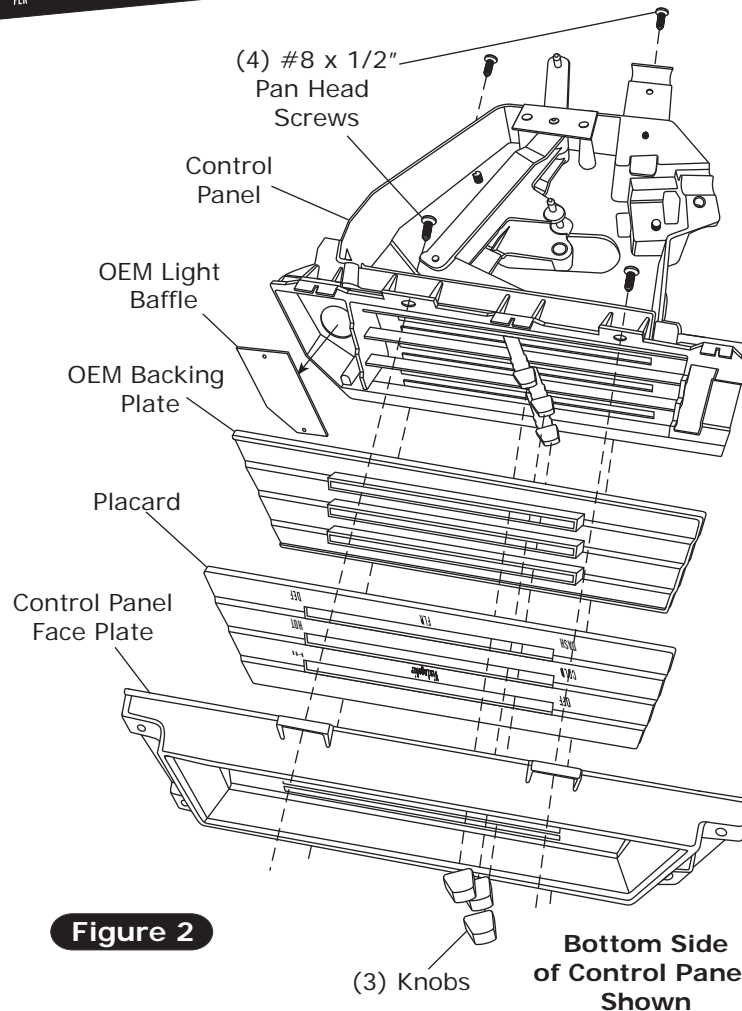

Figure 2
3. Remove OEM light baffle (discard) (See Figure 2, below).
4. Install OEM backing plate, placard and control panel face plate. Secure control panel face plate to control panel using (4) #8 x 1/2" pan head screws (See Figure 2, below).
5. Reinstall knobs (See Figure 2, below).